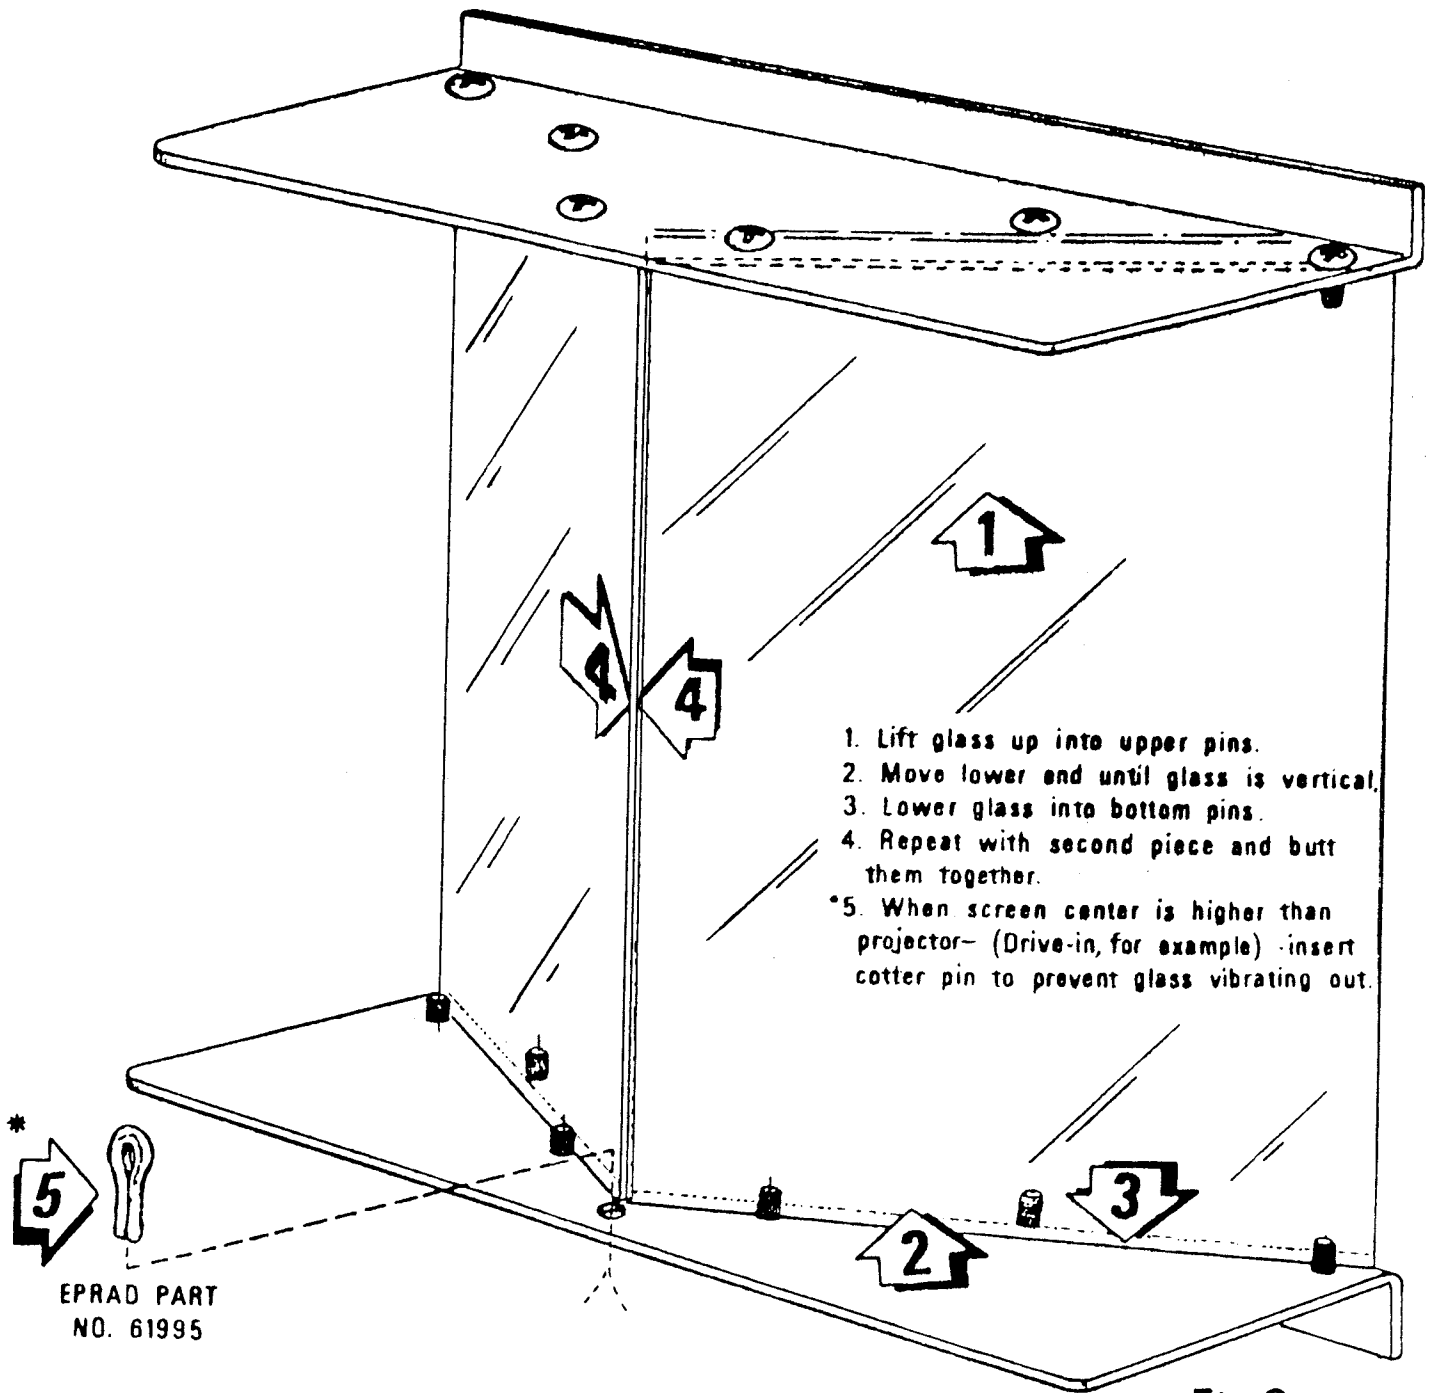

Fig 3
- 2) Install the heat reflecting glass as illustrated in Fig. 3. Make sure the inside edges butt together. The glass is meant to fit loosely to prevent breaking due to thermal expansion.